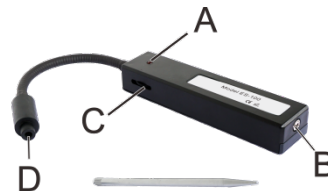

Figure 1
- 2) Verify that the stethoscope is off - the red indicator LED (Figure 1.A) is not on.
- 3) Insert the headphone cable jack into the socket of the stethoscope base (Figure 1.B).
- 4) With headphones on, turn on the stethoscope on the rotary switch (Figure 1.C) - the red LED lights up and slowly increases the volume to a comfortable level.
- 5) Place the rubber head (Figure 1.D) on or near the suspicious part. You can also insert the stethoscope probe into the rubber tip of the stethoscope, which is useful for detecting noise inside the housing.